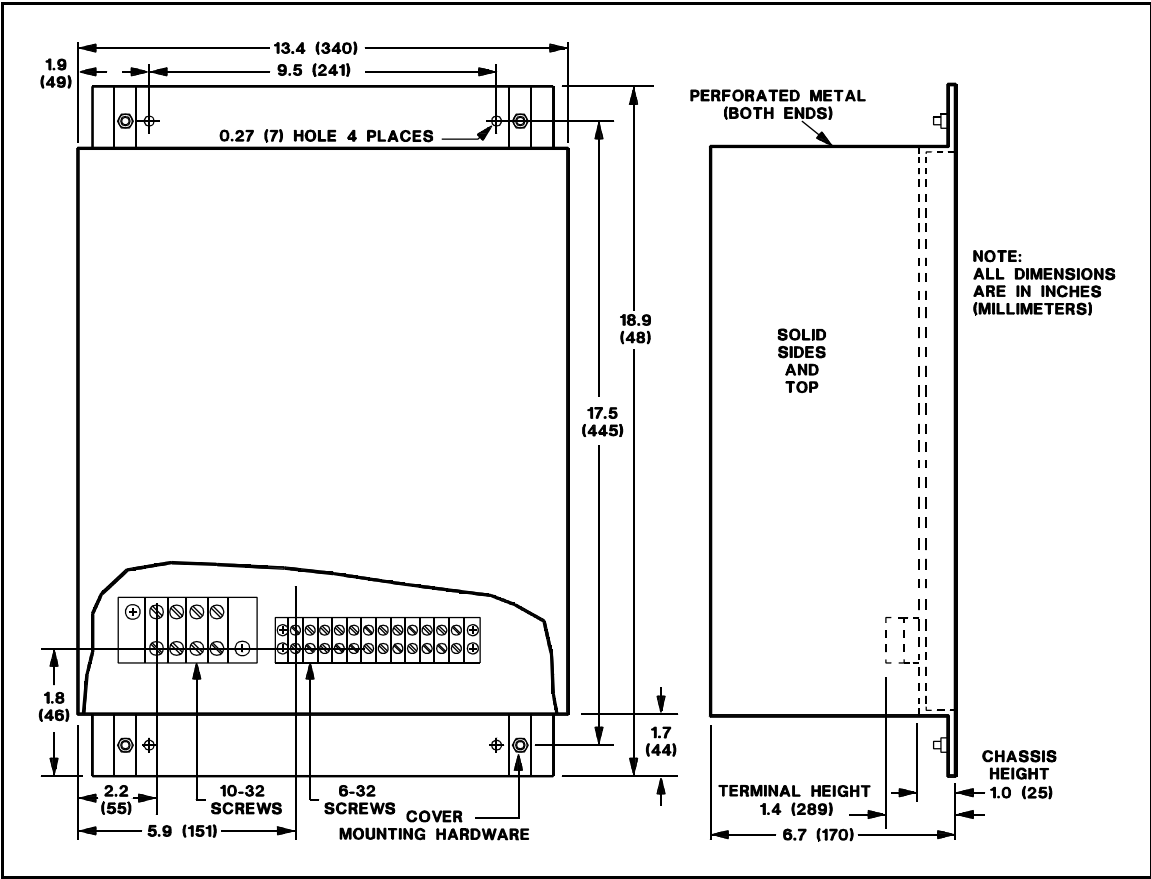

Figure 4-1. Outline Drawing.
Dimensions:	Refer to Figure 4-1.
**a. Mounting.** The unit is convection cooled and should not be mounted near heat generating equipment or inside totally enclosed switchgear where the temperature rise could exceed its operating limit. Vertical mounting is recommended to obtain optimum convection cooling. Refer to Figure 4-1 for the outline drawing.